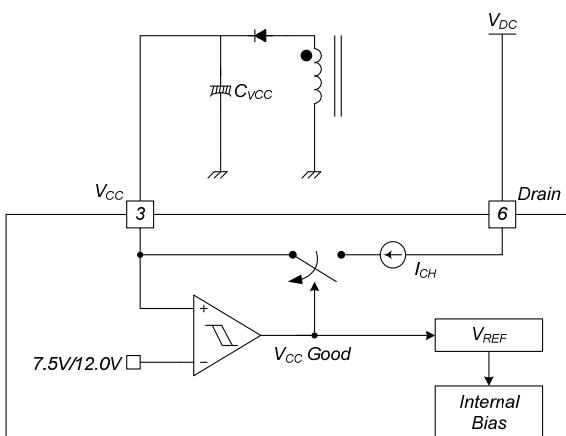

Figure 17. Startup Block
1. Startup: At startup, an internal high-voltage current source supplies the internal bias and charges the external capacitor (C_{VCC}) connected to the V_{CC} pin, as illustrated in Figure 17. When V_{CC} reaches 12V, the FSL128MRT begins switching and the internal high-voltage current source is disabled. Normal switching operation continues and the power is supplied from the auxiliary transformer winding unless V_{CC} goes below the stop voltage of 7.5V.